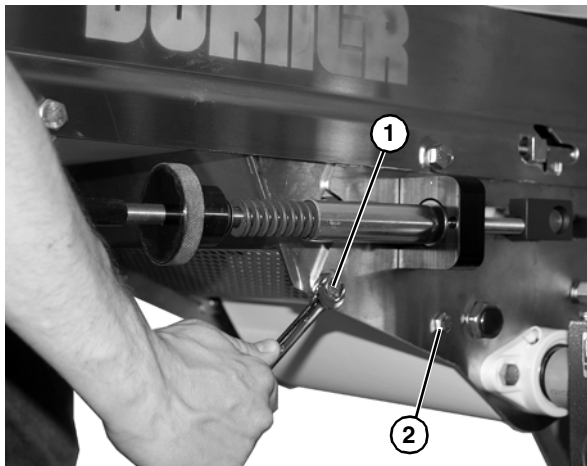

Figure 58
2. Remove screw (Figure 58, item 1) from each side of center drive from idler guard assembly.
3. Loosen screw (Figure 58, item 2) from each side.